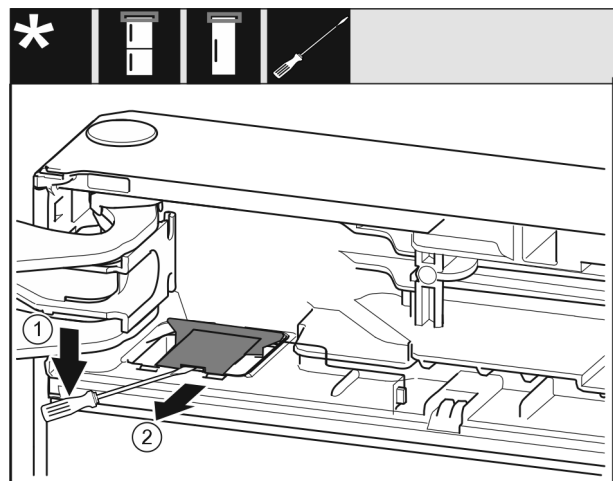

Fig. 8
- ▶ Unlatch the cover with a slotted screwdriver and lift it up. Fig. 8 (1)
- ▶ Take out the cover. Fig. 8 (2)